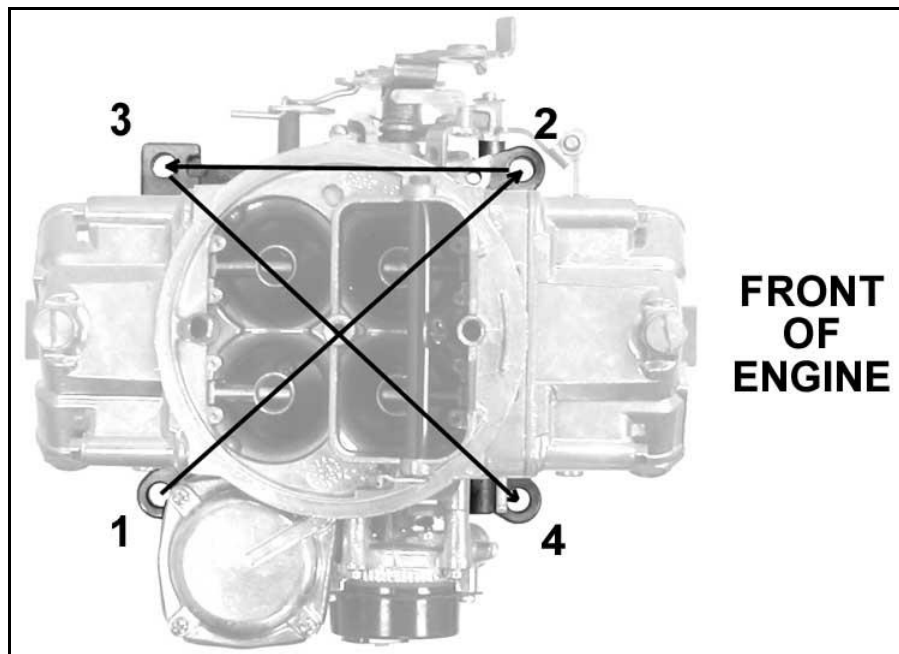

Figure 1—Carburetor hold-down nut torque sequence
2. Place the carburetor on top of the flange gasket on the manifold. Install the hold down nuts and snug down progressively in a "crisscross" pattern (60-80 in./lbs.), as shown in Figure 1.